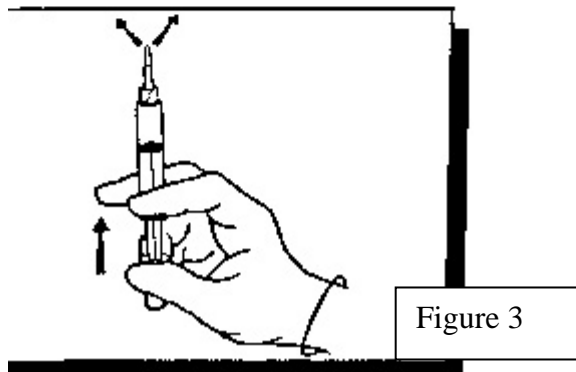

Figure 3
6. Push the plunger to the 5 mL mark to push all the air out of the syringe (figure 3).